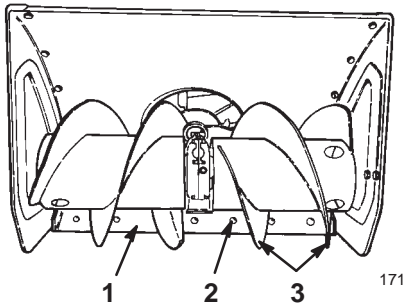

Figure 29
- Support the *auger blades* so that they are at least 1/8 inch (3 millimeters) off the ground (Fig. 29).
- To adjust the scraper, loosen the carriage bolts that secure the scraper to the auger housing (Fig. 29), level the scraper, and tighten the carriage bolts.